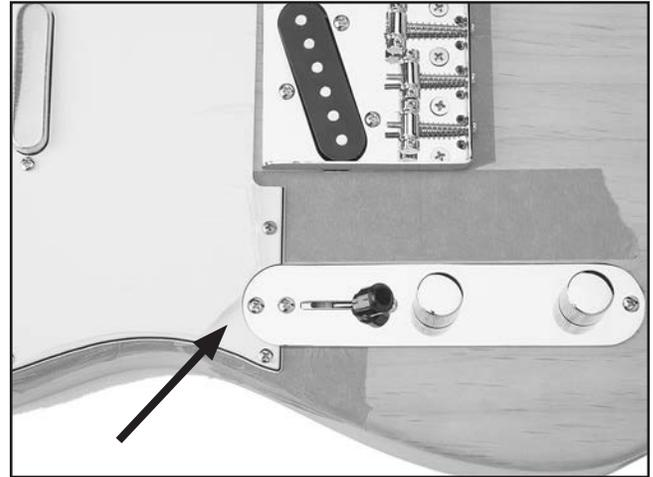

Figure 11. Control plate fits into pick guard.
5. Place the control plate on the body so it fits snugly into the curve on the pick guard, as shown in **Figure 11**.